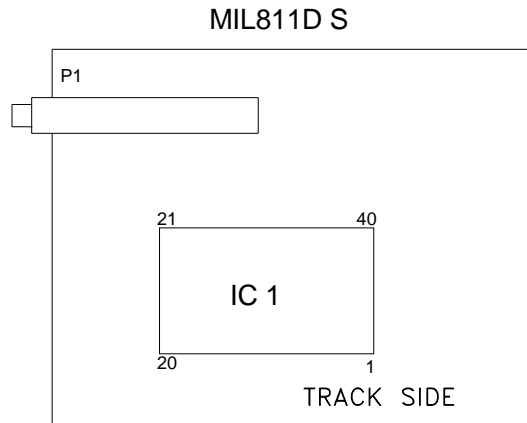

Figure 6 IRD811D PCB layout
4.2.2 METER CALIBRATION PROCEDURE (Refer Figure 6 the PCB layout)